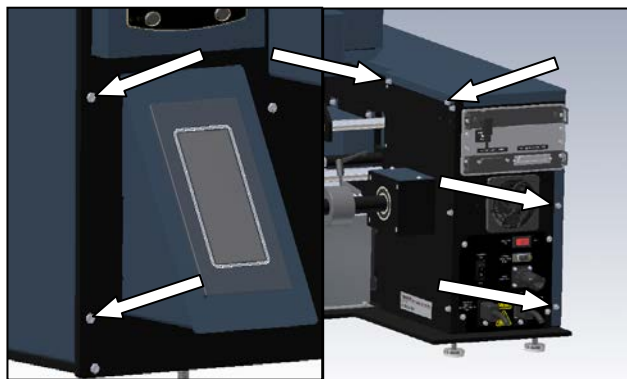

Figure 3-97. Frame Cover Screws
2. Remove the six screws holding the Frame Cover, set Frame Cover aside (Figure 3-97).